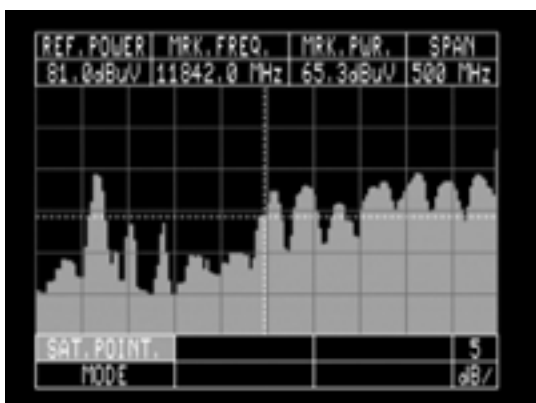

Fig.2 The carriers start to appear from the noise
- h) Start pointing your dish (whose elevation has already been adjusted) in the correct direction until you can see some carriers appear out of the noise and maximise them as shown in the two examples below (fig. 2 and 3). In theory the satellite dish pointing is now complete; later we will see how to make it perfect and/or simplify the procedure using some of the instruments special functions.